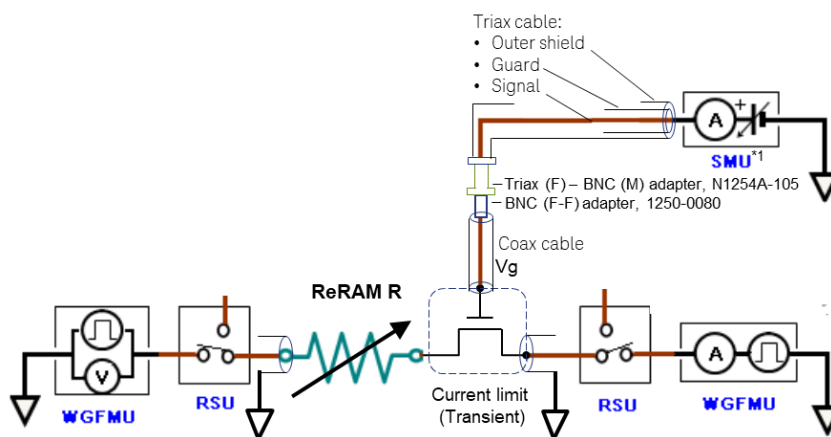
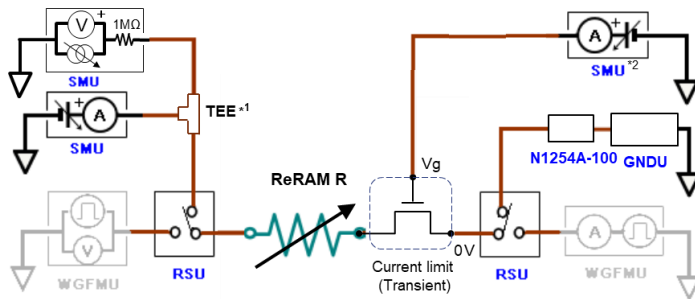
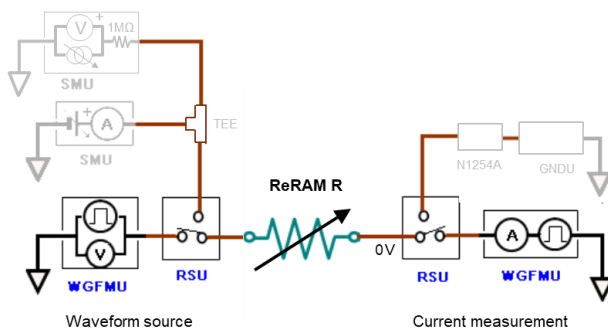
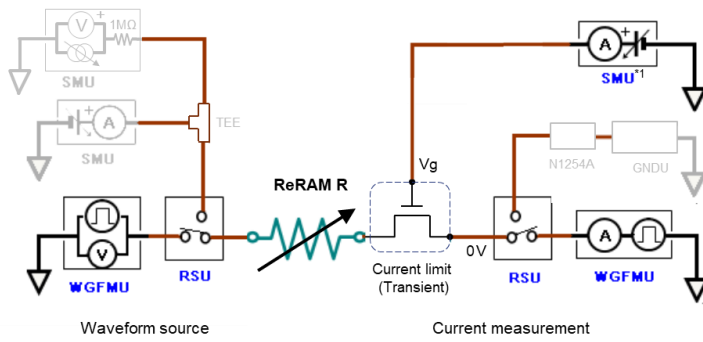

Figure 2-3. SMU connection using a coax cable to the current limit transistor.
Figure 2-5. Optional current limit configuration for IV - Butterfly curve measurement.
Figure 2-11. Standard configuration for FORM measurement.
Figure 2-12. Optional current limit configuration for FORM measurement.
Figure 2-3 shows the connection example of the ReRAM device and current limit transistor using the coax cable. The Triax cable from the SMU is converted at the close point of the V_g transistor to the coax cable using two adapters; 1) Triax (F) - BNC (M) adapter, and 2) BNC (F-F) adapter, then the coax cable is connected to the transistor.
The connection diagram of the optional current limit configuration is shown in Figure 2-5. Refer to Figure 2-3 when connecting the SMU to Vg terminal of the current limit transistor.
WGFMU RSUs are used in the FORM measurement application test as shown in Figure 2-11.
The connection diagram of the optional current limit configuration is shown in Figure 2-12. Refer to Figure 2-3 when connecting the SMU to Vg terminal of the current limit transistor.
Configure the connection setup and connect your device by referring to the connection diagram on the GUI. Refer to Figure 2-3 when connecting the SMU for V_g .
The measurement configuration is the same as the ReRAM FORM application test. Refer to the relevant section of the ReRAM FORM measurement configuration. For standard configuration, refer to Figure 2-11. For the optional current limit configuration, refer to Figure 2-12.